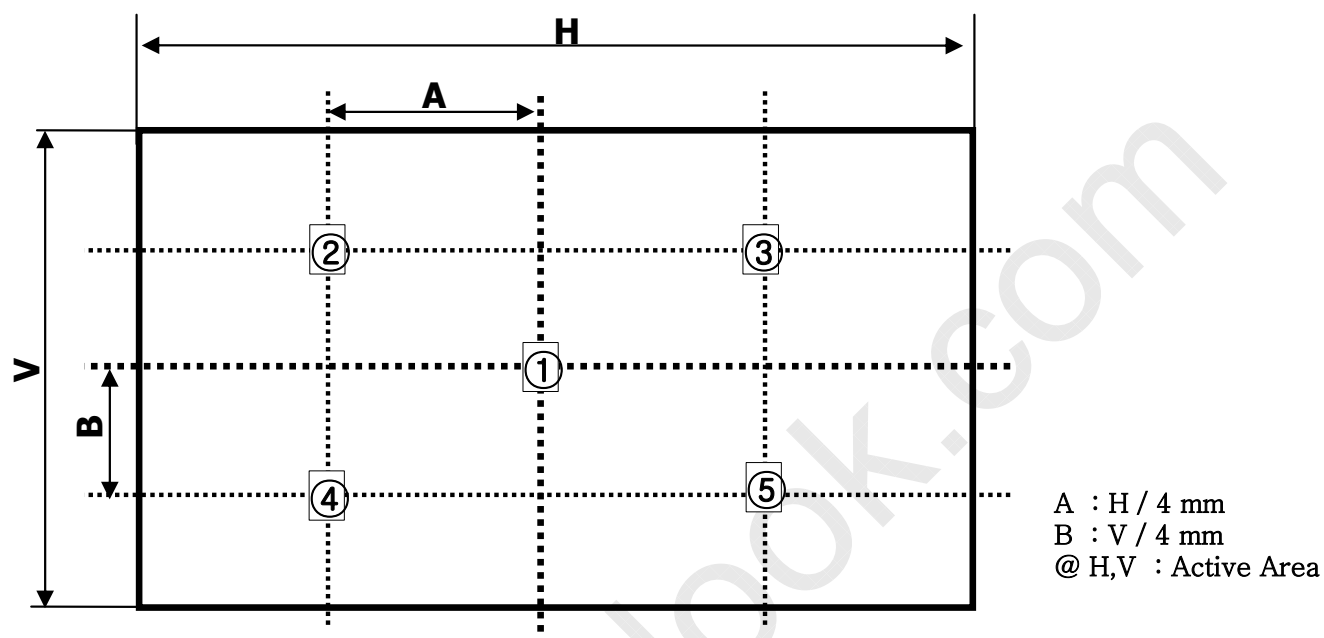

FIG. 2 Measure Point for Luminance
n = the Position number(1, 2, 3, 4, 5). For more information, see FIG 2.
2. Surface luminance is determined after the unit has been 'ON' and 1Hour after lighting the backlight in a dark environment at $25 \pm 2^\circ\text{C}$. Surface luminance is the luminance value at center 1-point across the LCD surface 50cm from the surface with all pixels displaying white. For more information see the FIG. 2.
For more information, see the FIG. 2.